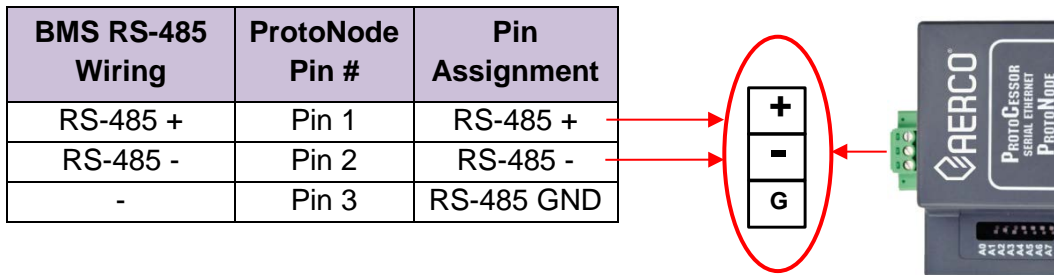

Figure 3-5: Connection from ProtoNode to RS-485 Field Network
- Connect the BACnet MS/TP or Metasys N2 RS-485 network wires to the 3-pin RS-485 connector on ProtoNode FPC-N34 as shown below in Figure 3-5.